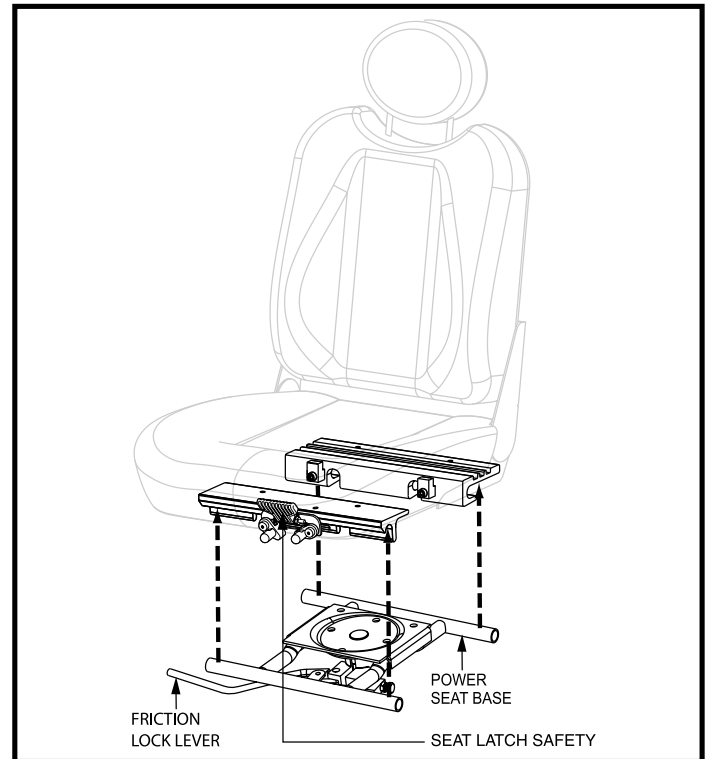
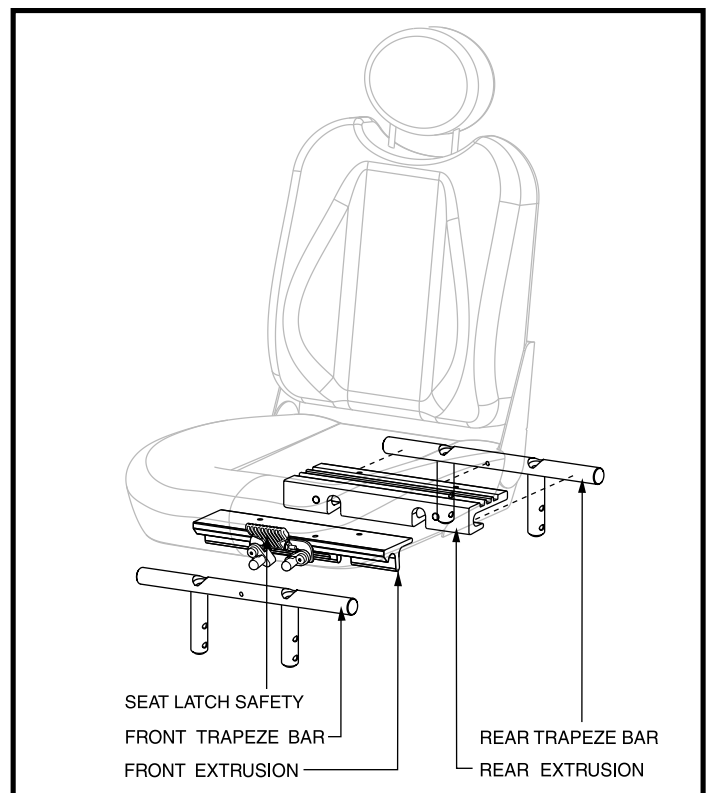

Figure 12. Universal Mounting System (Power Elevating Seat System)
Figure 13. Universal Mounting System (Optional Seating System)
It may be necessary to install the seat either prior to initial operation or after transporting your power chair. Most seats are attached to the power base with the Universal Mounting System (UMS). The UMS consists of universal parts that may be attached to any medium-back or high-back seat, regardless of seat width or seat depth. The two main components are aluminum extrusions mounted to the seat base. These extrusions attach to the power seat base (see figure 12) or to a pair of trapeze bars that are mounted to the power base (see figure 13).
2. Tilt the seat back and slide the rear extrusion onto the power seat frame or rear trapeze bar. See figure 12 or figure 13.
4. Flip up the seat latch safety. See figures 12 or 13.